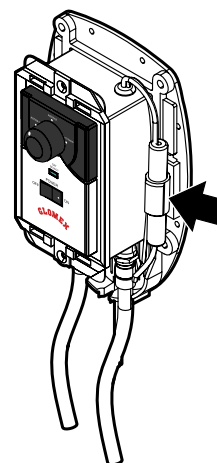

Fig. 33
- Remove the blown fuse from its seat indicated in **Fig. 33** and replace it with a new one (**type T 3A15 5x20**, i.e. delayed-action tube fuse, with 5 mm diameter and 20 mm length, 3 A rated current and 15 V rated voltage).